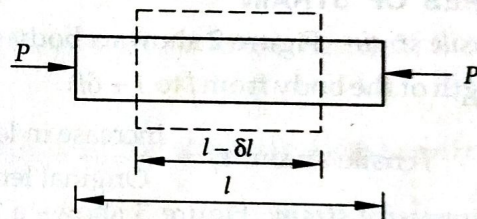

Fig. 3
2. **Compressive strain:** Figure 3 shows a body subjected to an axial compressive load  $P$ , which decreases the length of the body from  $l$  to  $l - \delta l$ .